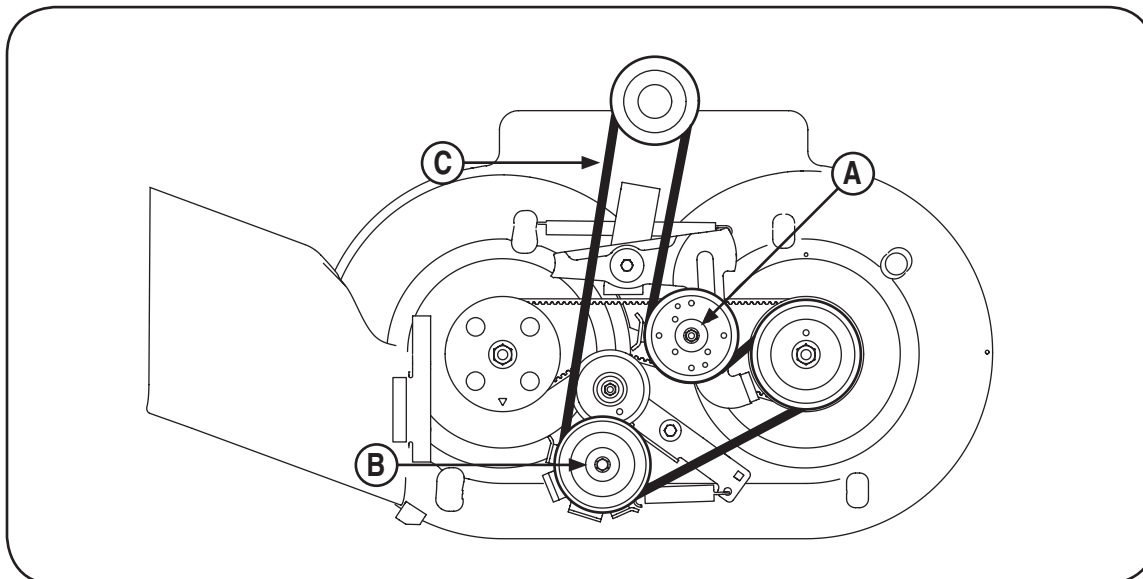

Figure 5-16: Top view of deck engagement belt orientation.
5. Loosen the idler pulley (A) by loosening the nut and bolt, Figure 5-16.
6. Loosen the idler pulley (B) by loosening nut, Figure 5-16.
7. Remove belt (C) from around pulleys, Figure 5-16.